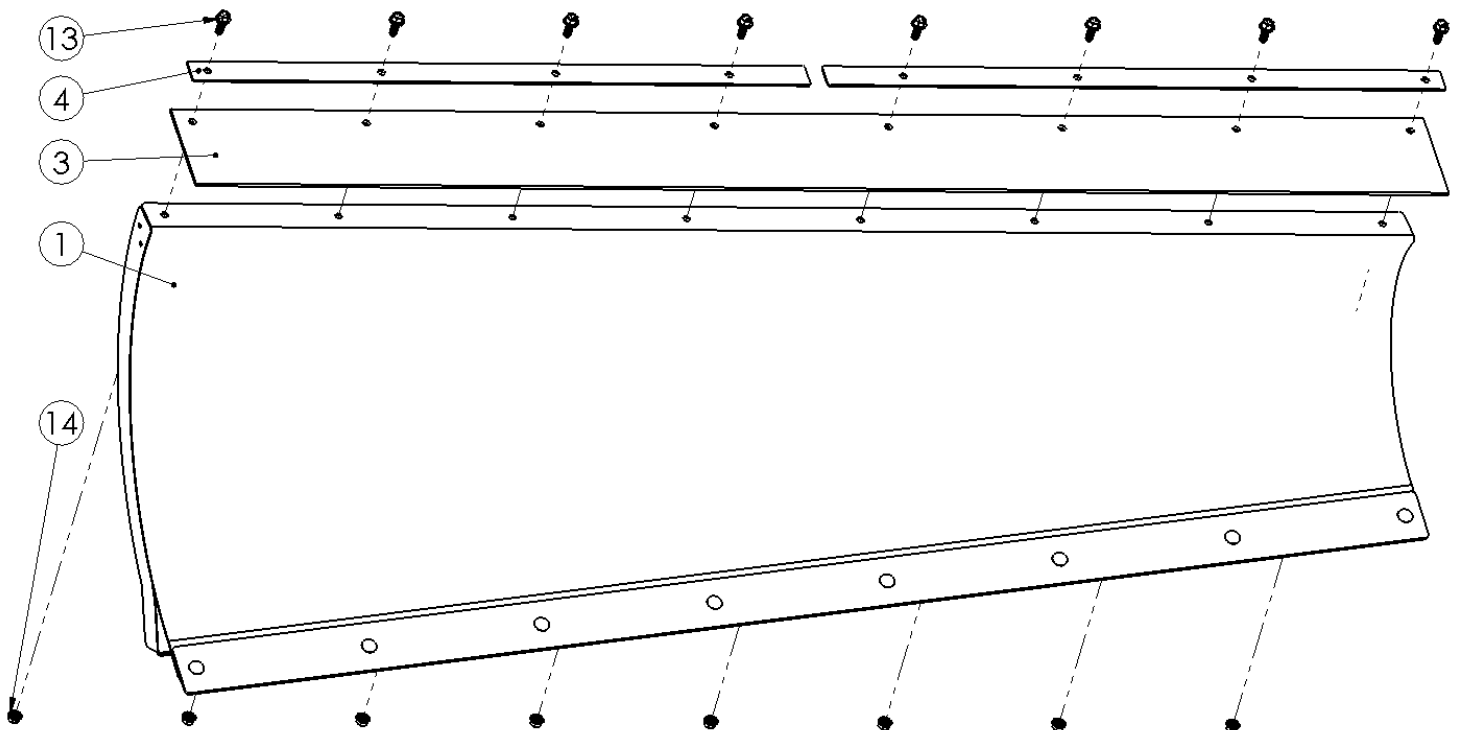

Figure 2
- 2) Install the 72" Rubber Flap and 2pc Rubber Flap Hold Down Bars as shown in Figure 2.